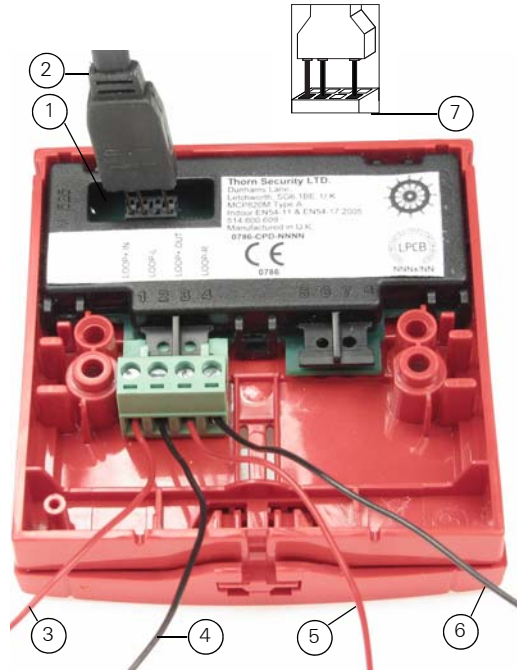

Fig. 2: MCP820M Rear View and Wiring Information
The MCP820M is programmed with the address prior to installation using an address programming tool. The associated ancillary programming lead plugs into the programming port (see Items 1 and 2 in Fig 2). Refer to Fig 3 for proper orientation.
Ensure that the pins of the ancillary programming lead are inserted completely into the lower row of the programming port (see item 7 in Fig 2) for effective communication with the Address programming tool.
- 1 Connection to the MCP820M is made via the 4 way terminal connector as shown in Fig. 2, ensuring correct polarity.